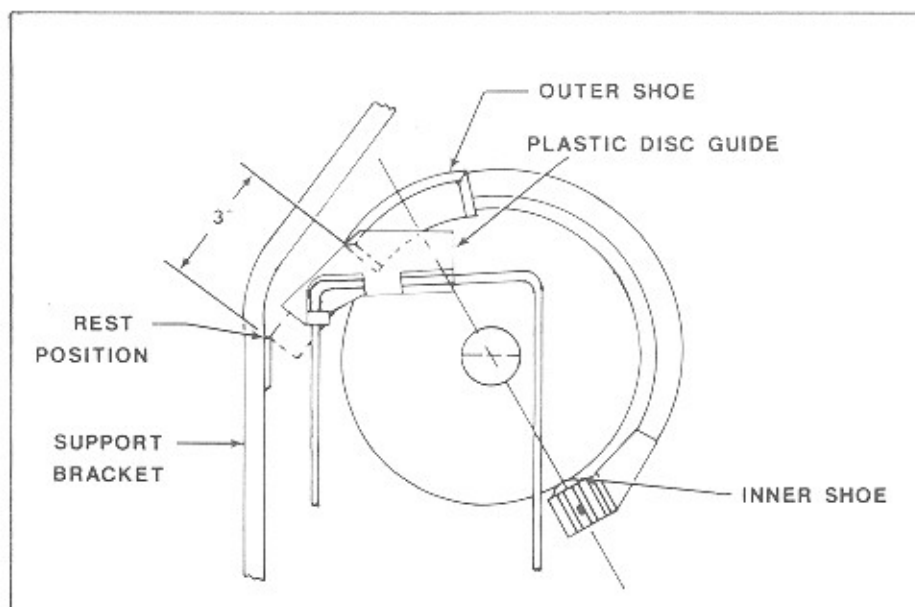

Figure 6-14. Magazine and Transfer Arm Position
2. Using a 5/32-inch Allen wrench in the end of transfer motor shaft, turn motor shaft clockwise until the gripper bow lifts the disc out of the magazine, and the outer shoe is approximately 3 inches from its rest position (see figure 6-14).